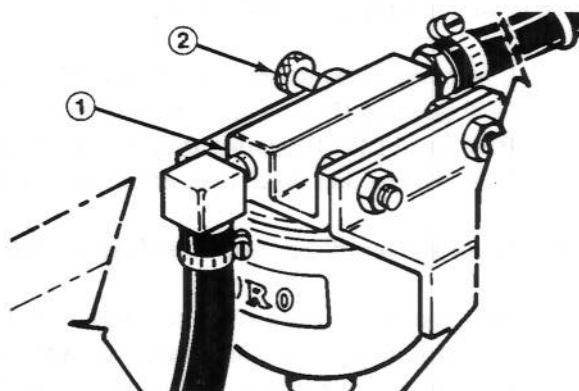

Figure 12
2. Loosen air bleed screw on the top of the fuel filter/water separator (Fig. 12).